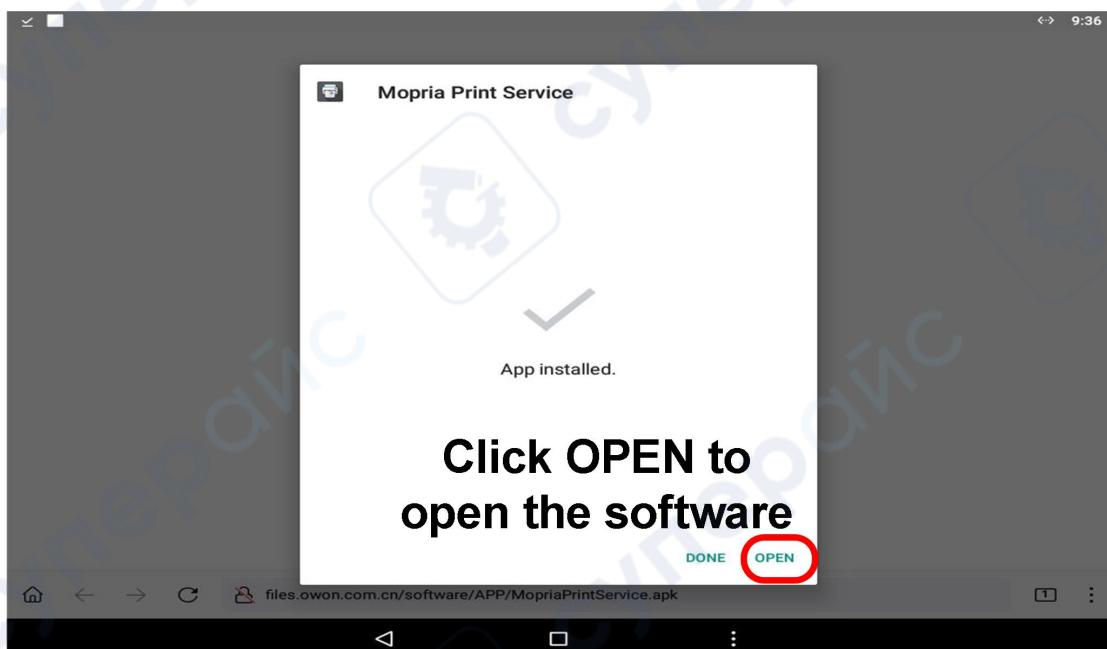

Figure 5
2、In website install print app,steps as shown in Figure1 to Figure 5.
⑤ After install success, click **OPEN** can open print app. As shown in Figure 5.